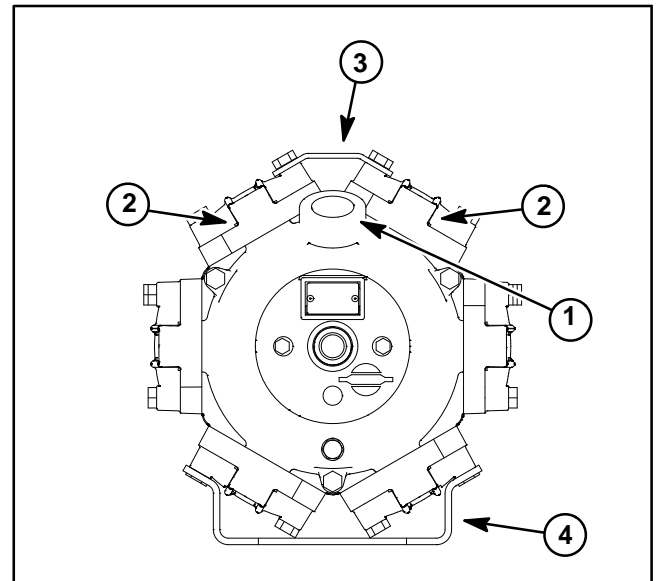

Figure 6
4. Remove hex bolts that retain valve covers (item 4) to pump. Separate and remove valve covers from pump.
NOTE: The two (2) pump inlet valves in the upper pump positions (either side of pump suction port) are different than the rest of the valves used in the pump (Fig. 6). These two (2) valves can be identified by the vent hole and white color.
- A. Place diaphragm back disc (item 8), new diaphragm (item 7) and diaphragm disc (item 6) on connecting rod. Make sure that the diaphragm disc lip faces away from the diaphragm.
- B. Thread hex bolt (item 5) into connecting rod.
IMPORTANT: The two (2) pump inlet valves in the upper pump positions (either side of pump suction port) are different than the rest of the valves used in the pump (Fig. 6). These two (2) valves can be identified by the vent hole and white color.